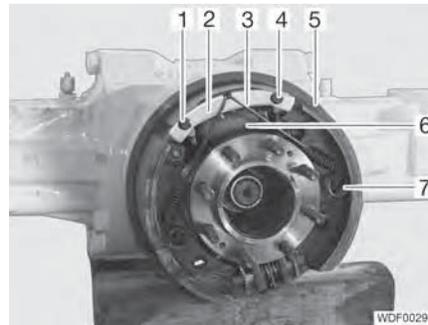
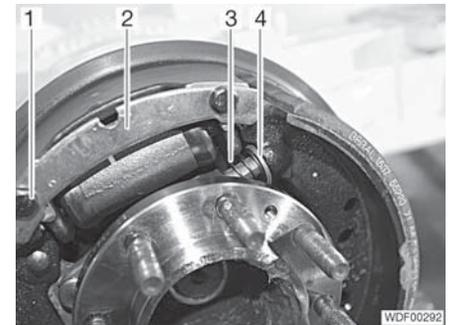

Fig. 261 Brake shoe attachment
Fig. 262 Upper bearing
- Undo the 2 screws (Fig. 261,1 and 4).
- Apply a suitable lever between the metal plate (Fig. 261,2) and the brake cylinder (Fig. 261,6).
- With the lever, move the metal plate (Fig. 261,2) slightly upwards and unscrew the screw (Fig. 261,1).
- Unhook and remove the 2 springs (Fig. 261,3) on the metal plate (Fig. 261,2).
- Press the 2 springs (Fig. 261,7) through the brake shoes (Fig. 261,5), rotate them clockwise through 90° and pull them out.
- Temporarily secure the metal plate (Fig. 262,2) with the screw (Fig. 262,1).
- ▷ Do not lose the washer (Fig. 262,4).
- Press the brake shoes together on the upper bearing against the spring (Fig. 262,3) and remove.
- Push the brake shoes (Fig. 261,5) together on the upper bearing against the spring (Fig. 262,3) with the washer (Fig. 262,4) and insert.
- Press the 2 springs (Fig. 261,7) through the brake shoes, rotate them counter-clockwise through 90° and hook them in on the rear side of the brake housing.
- Hook the 2 springs (Fig. 261,3) into the brake shoes.
- Unscrew the screw (Fig. 261,1).
- Hook in the 2 springs (Fig. 261,3) in the center of the metal plate (Fig. 261,2).
- Move the metal plate (Fig. 261,2) sufficiently far up and tension the springs (Fig. 261,3) sufficiently so that the screw (Fig. 261,1) can be screwed in.
- Screw in the screw (Fig. 261,1).
- Screw in and tighten the 2 screws (Fig. 261,1 and 4).